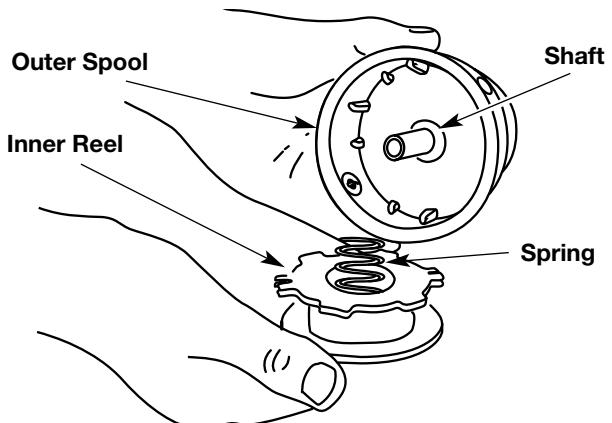

Fig. 19
2. Remove the inner reel from the outer spool (Fig. 19).
3. Remove spring from the inner reel (Fig. 19).
- Remove the old inner reel from the outer spool (Fig. 19).
- Remove the spring from the old inner reel (Fig. 19).